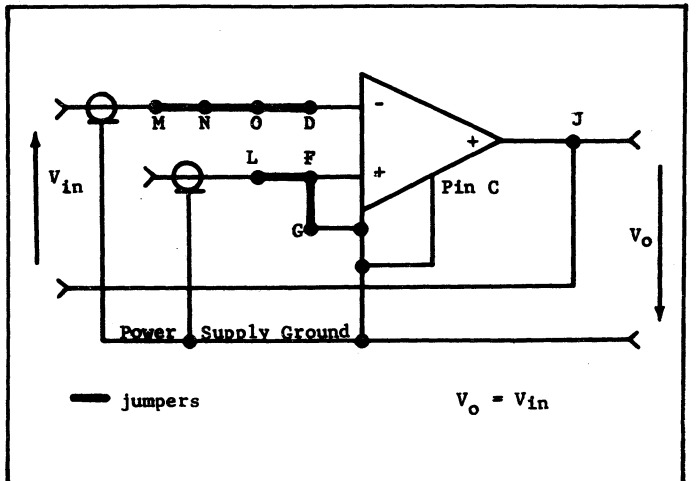

FIGURE 14. Unity-Gain Voltage Amplifier
9. Unity Gain Voltage Amplifier (With Floating Input or Output). In this mode the input voltage is applied between -INPUT and OUTPUT such that the input is isolated from power supply ground. When using this connection either the power supply or the input must be floating. The gain accuracy is approximately 0.002% or 20 ppm. The Keithley Model 3012 Power Supply permits floating the input up to 500 volts off ground with greater than 10^8 ohms isolation between low and power supply ground. The output voltage is inverted with the voltage developed between OUTPUT and GROUND. Connections should be made as shown in Figure 14.